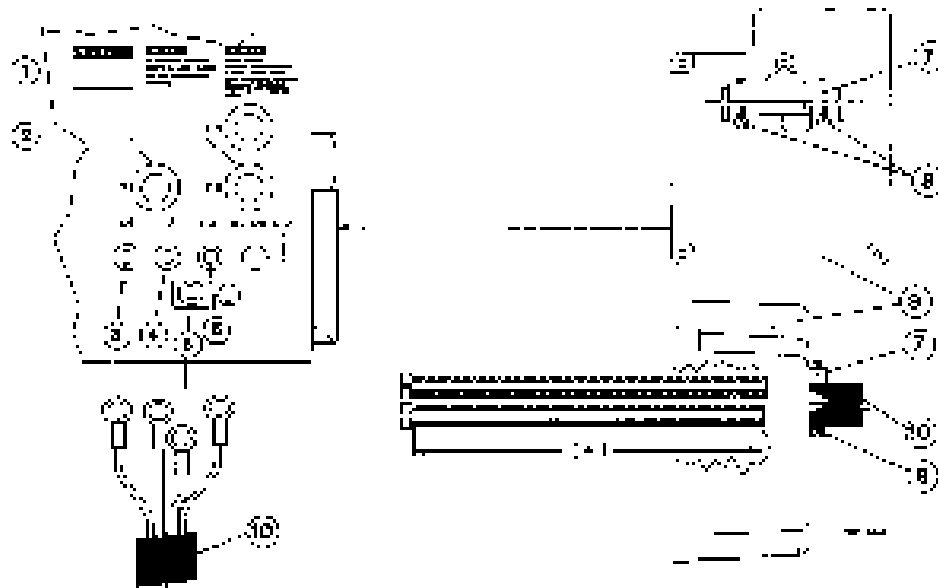

Figure 2-5. Connecting the Series 668xA Power Cord
See Figure 2-5 and proceed as follows:
1. Check the line fuses (2), Figure 2-5) as follows:
- a. Examine the **LINE RATING** label (1) on the rear panel.
- b. Unscrew the line fuse caps (2) from the rear panel and verify that all fuses are as specified on the label. Replace the fuses.
2. Open the line clamp (7) and insert the line cord (10) through the opening.
3. Position the line cord so that the clamp is near the end of the outside insulating sheath. Tighten the screws (8) securing the clamp. Torque the screws using 2 to 4 inch-pounds (0.23 to 0.45 Newton meters).
- * Phase 1 (3) to L1. Phase 2 (4) to L2. Phase 3 (6) to L3.
5. Secure the ground wire (5) to the chassis earth ground stud.